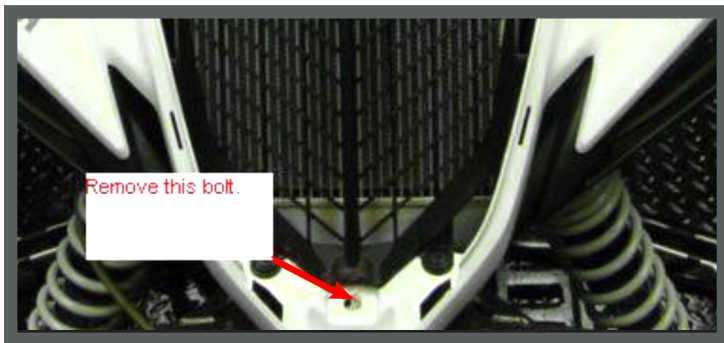

Figure 2
3. Remove the cover and the bolt shown in (Fig 2)